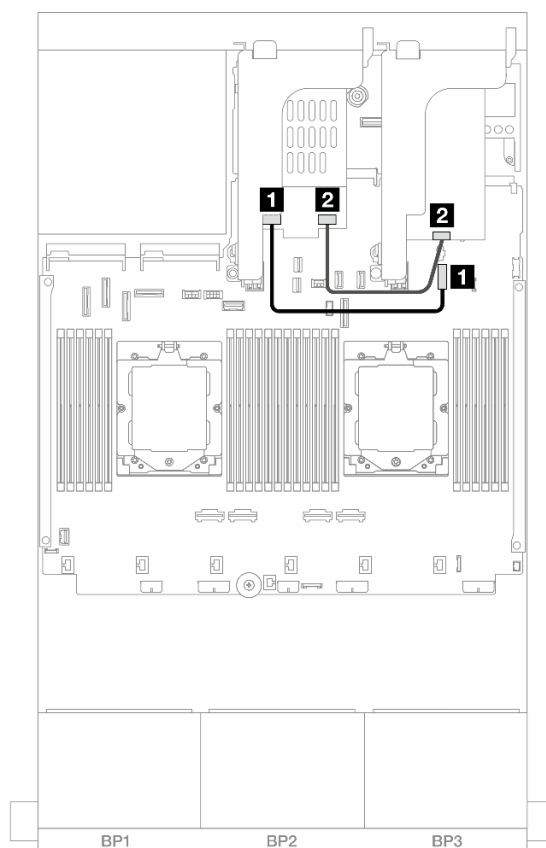

Figure 326. RAID cable routing
- Figure 326 “RAID cable routing” on page 366